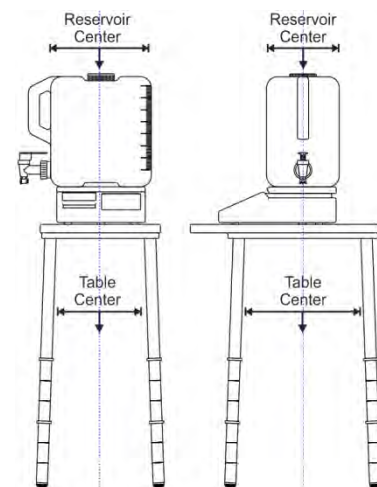

Fig. 23. How to center Scale and Reservoir with Table.
**Place Scale and Reservoir on the Table and make sure that they are centered** with the Table legs (Fig. 23). Note that the Reservoir is relatively heavy and if it is not centered with Table legs, it may tip over.